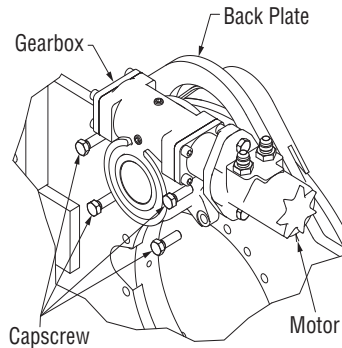

Figure 5-4, Gearbox Removal
2. Before removing the gearbox from the back plate, place a support overhead or under the gearbox. Remove the mounting capscrews from the gearbox. (Figure 5-4)